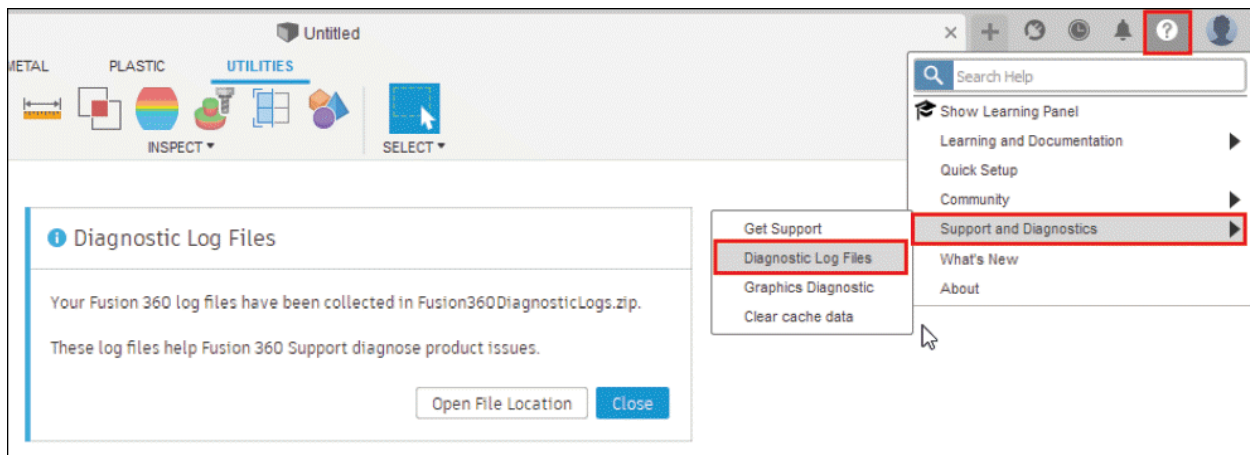

Figure-101. Diagnostic Log Files dialog box
- To create log files, select **Diagnostic Log Files** tool under the **Support and Diagnostics** cascading menu in **Help** drop-down. The **Diagnostic Log Files** dialog box will be displayed; refer to Figure-101.